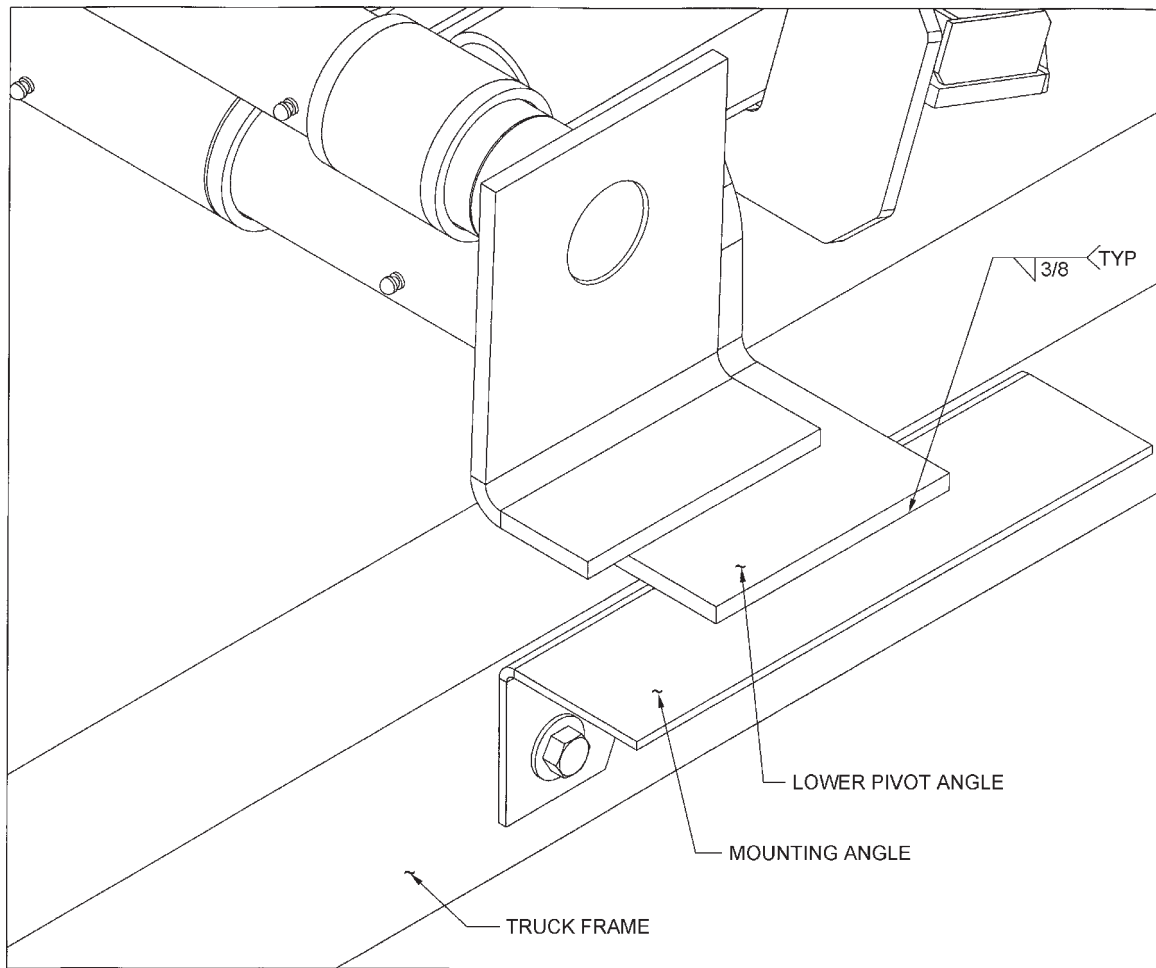

Figure 3 - Mounting Angle Assembly
E. After the hoist is positioned, place the mounting angles (Figure 3) under the lower pivot angles and against the truck frame. Clamp securely in place. Drill through the frame and install the mounting angle with two (2) 1/2" x 1-1/2" hex head cap screws, lock washers, and hex nuts, and four flatwashers (both sides).
F. Weld each end of the lower pivot angle to its mounting angle as shown in Figure 3. Note the welding symbols. Do not weld to the truck frame.